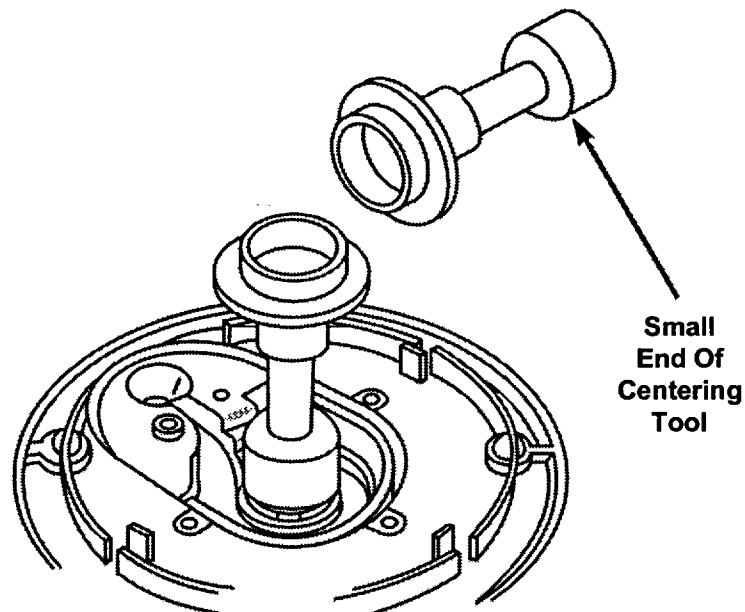

Fig. 12
2. Reassemble the pump base to the motor. Start the four (4) Torx screws. Be careful to avoid stripping the screws. Turn each screw counterclockwise until you can feel the threads backing off or bumping off each other. Then turn clockwise to engage. Be sure that the motor harness is about 90° counterclockwise from the drain port. **DO NOT TIGHTEN SCREWS YET.**
3. Slide the centering tool, small end first, down the shaft into the seal head opening to center the base to the motor. (Fig. 12)